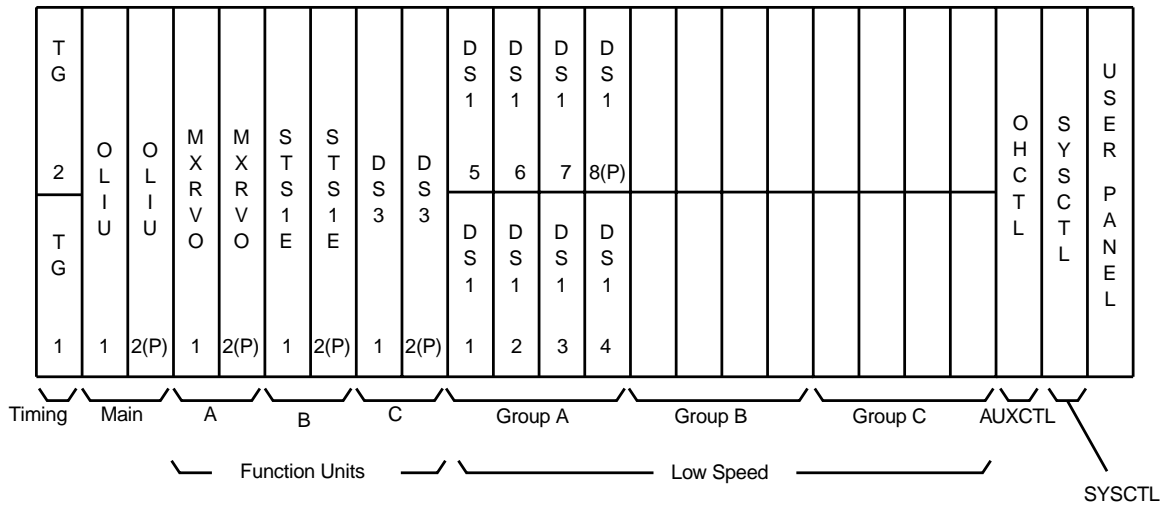

Figure 3. DDM-2000 OC-3/OC-12 Front Panel Layout
- b. **Panel Layout:** The DDM-2000 OC-3/OC-12 Multiplexer (Figure 3) can be configured to the a specific application by utilizing the appropriate circuit packs, such as **DS1**, **DS3**, **STS1E**, **TMUX**, **HDSL**, **T1EXT**, or **IMA LAN**. The **USER PANEL** and **SYSCTL** circuit pack are on the right side of the panel. On the left are Timing generator and OLIU (Optical line interface unit) circuit packs.